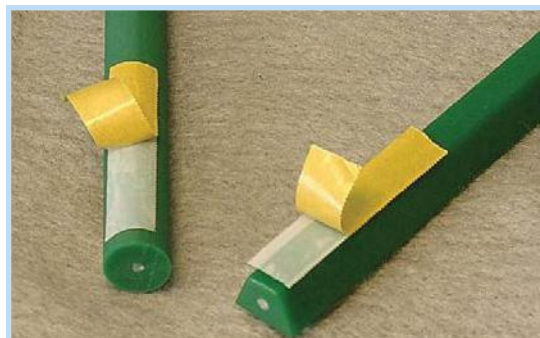

Fig. 29
Round Profiles: Apply a thin strip of double-sided adhesive tape, 10-12 mm (3/8–1/2”) wide and 50 mm (2”) long, to the belt ends as shown in (Fig. 29).
- | V Profiles: Attach a thin strip of double sided adhesive tape, 10-12 mm (3/8–1/2”) wide and 50 mm (2”) long (Fig. 29), to the narrow portion of the V-Profile.